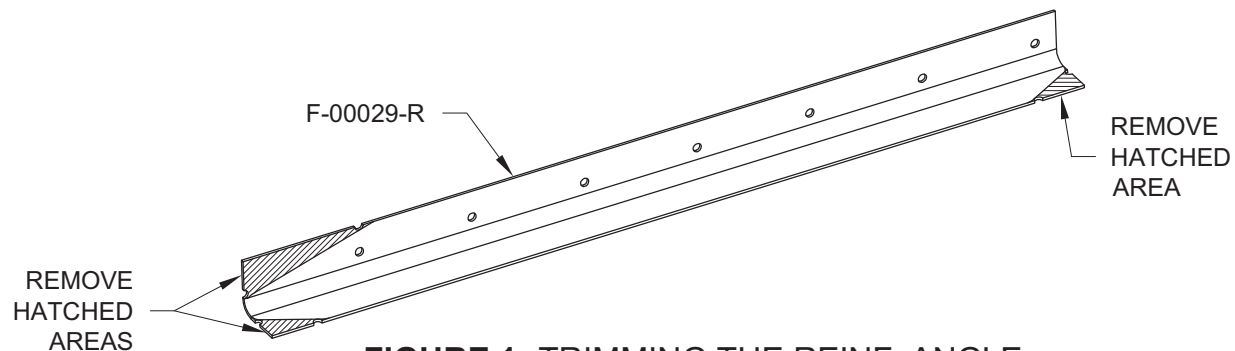

FIGURE 1: TRIMMING THE REINF. ANGLE
Step 1: Remove the hatched areas of the F-00029-R SkyView Dual Screen Reinforcement Angle as shown in Figure 1.